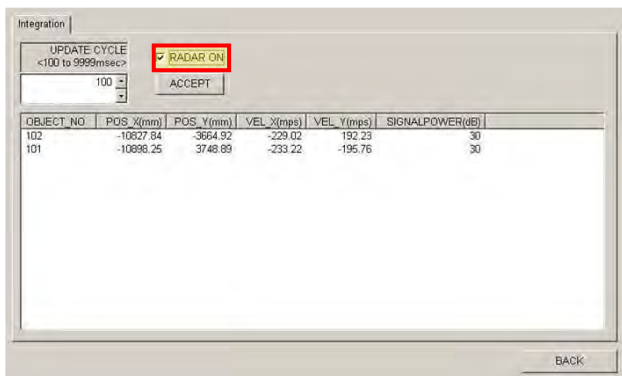

FIGURE 30-41. INTEGRATION SCREEN
5. Select RADAR ON. See Figure 30-41.